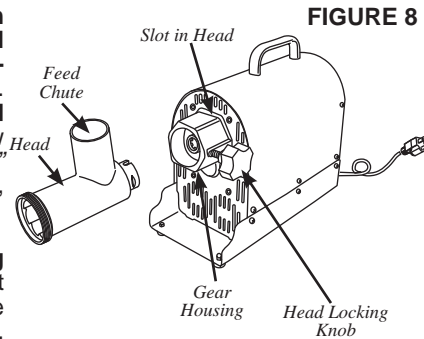

FIGURE 8
1. Insert the **Head** into the **Gear Housing** with the feed chute of the **Head** facing straight up. You will need to line up the slot in the **Head** with the **Pin** inside the **Gear Housing**. Be sure the **Head** is seated fully into the **Gear Housing** (Figure 8).